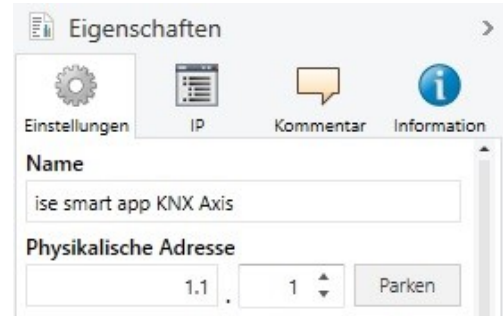

Figure 2 Device properties dialogue of the ETS
2. Display the properties of the device in the sidebar of the ETS as shown in Figure 2 Device properties dialogue of the ETS **Fehler! Verweisquelle konnte nicht gefunden werden..**